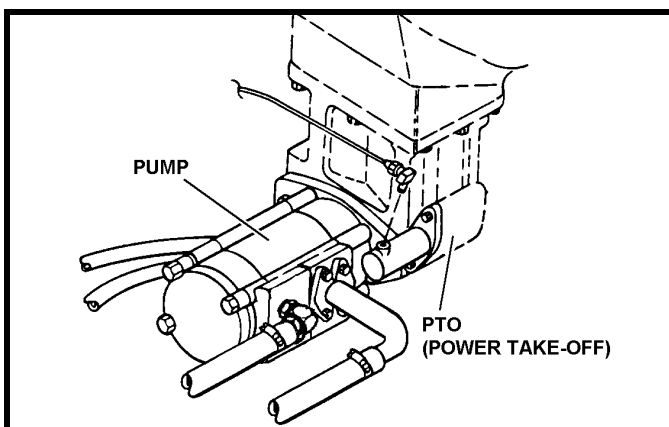

FIGURE 3.1
- 3.1 Your new wrecker is fully hydraulic. It receives its power by means of a Power Take-Off/Pump combination mounted to the vehicle transmission . Since the pump is attached to the PTO, no drive line or universal joint is required. See Figure 3.1.